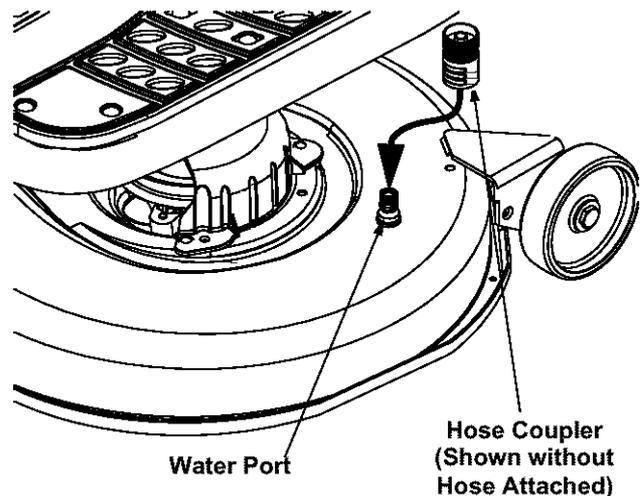

Figure 14
- Attach the hose coupler to the water port on your decks surface. See Figure 14.